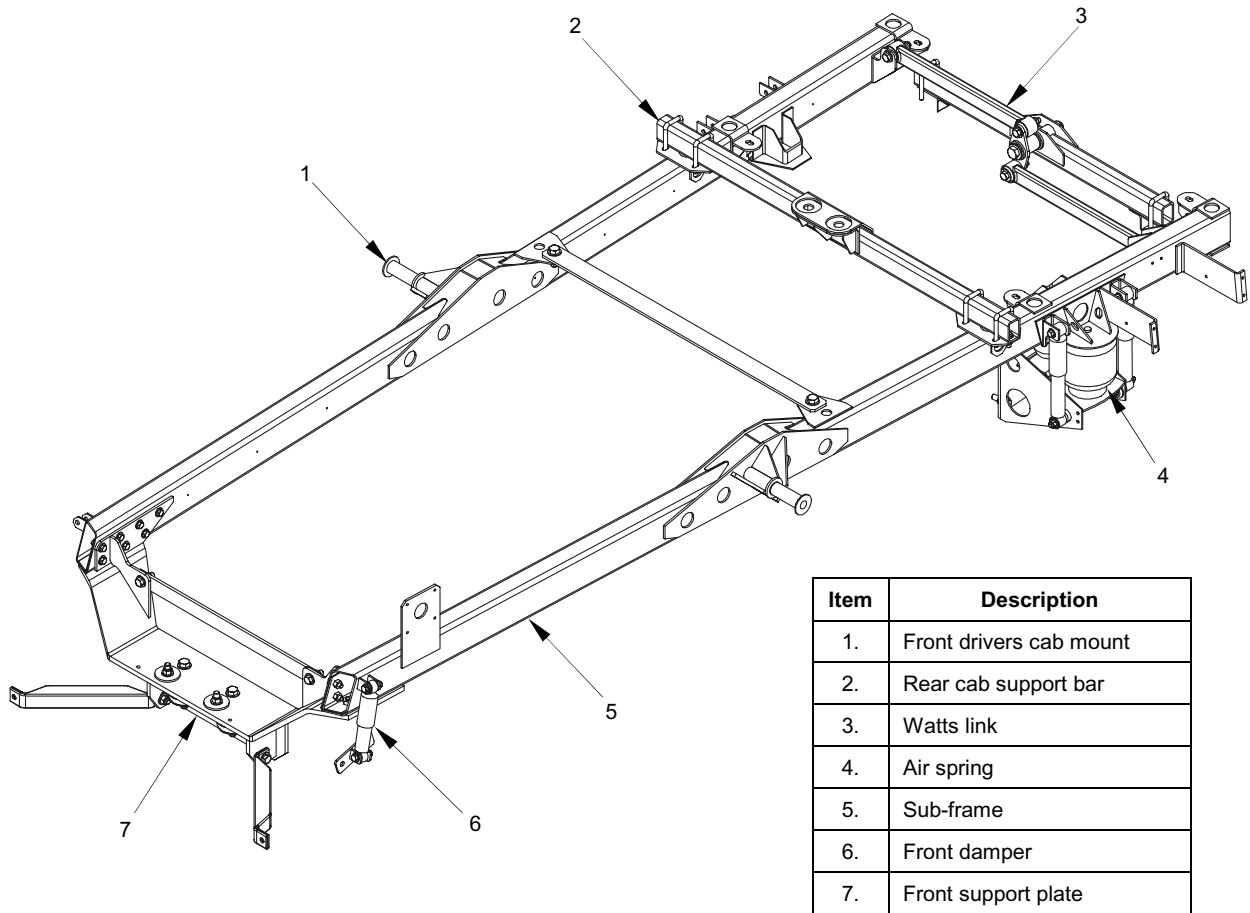

Figure 70 – Cabin Isolation Frame
84. Removal. To remove the cabin isolation frame, proceed as follows (refer to Figure 70):